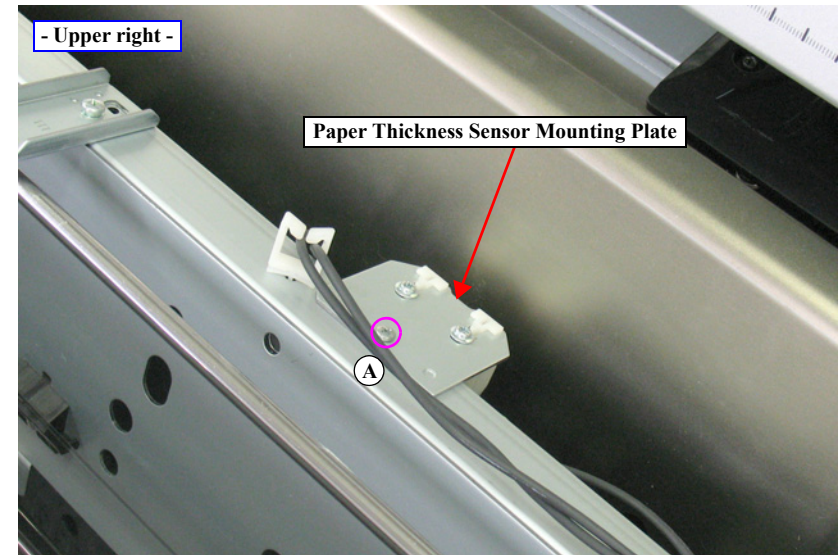

Figure 4-81. Removing the Paper Thickness Sensor Mounting Plate
9. Remove the screw that secures the Paper Thickness Sensor Mounting Plate, and remove the Paper Thickness Sensor Mounting Plate. *See Figure 4-81.*
6. Remove the two screws that secure the Driven Roller Release Motor, and remove the Driven Roller Release Motor. *See Figure 4-81.*